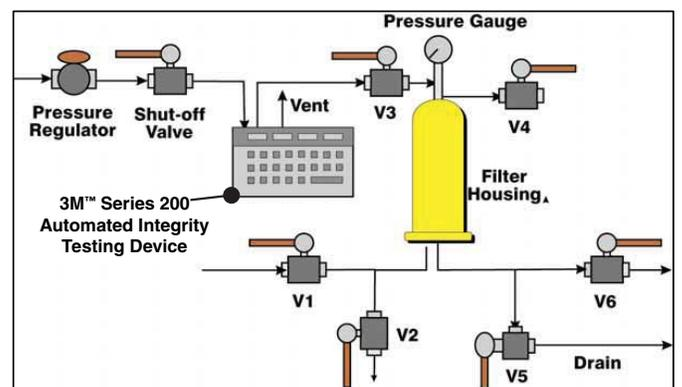

Figure 6 - Pressure Hold Test (Automated Testing)
The 3M Series 200 Automated Integrity Testing Device can be used to perform a PHT. When using the testing device, follow the installation instructions for connecting the unit to the upstream valve as shown in Figure 6. Consult 3M Purification for the appropriate PHT value for your filter housing. Program these values into the testing device when prompted during test set-up.
### Procedure #2. Pressure Hold Test (Automated Testing - Figure 6)
- A. Configure the system as shown in Figure 6. Connect a pressure regulator to a sterile compressed air source (Do Not Use CO2) capable of delivering a minimum of 0.7 bar (10 psig) more than the required test pressure. PHT test pressure for LifeASSURE PDA series filter is 2.8 bar (40 psig).